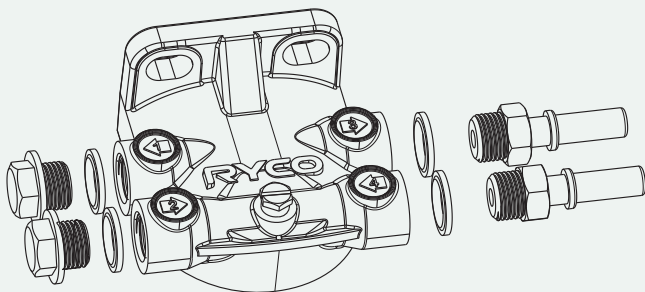

FIGURE 3
- 1 Install the Ryco fuel water separator head with metal quick connectors, blanking plugs and rubber bonded washers, as per Figure 3. Tighten blanking plugs (on Port 1 & 2) and quick connectors (on Port 3 & 4).